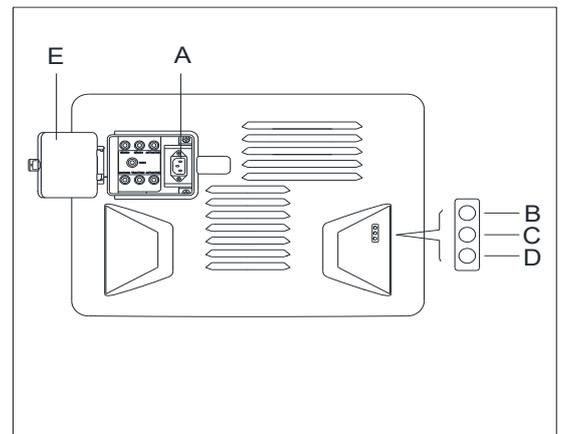

Figure 19
7. Open the protection cover (E, Figure 19), connect the charger connector (A, Figure 19) to the main power supply, all machine functions are shut off. The red LED (D, Figure 19) turns on means the charging is ongoing.
8. The batteries are fully charged when the green LED (C) becomes on.
9. Disconnect battery charge cable from electric mains after charging is completed, and then store the battery charger cable (F, Figure 19) in the storage box (G, Figure 19).
For further information about on-board charger (A, Figure 19), please refer to relevant manual from service center.